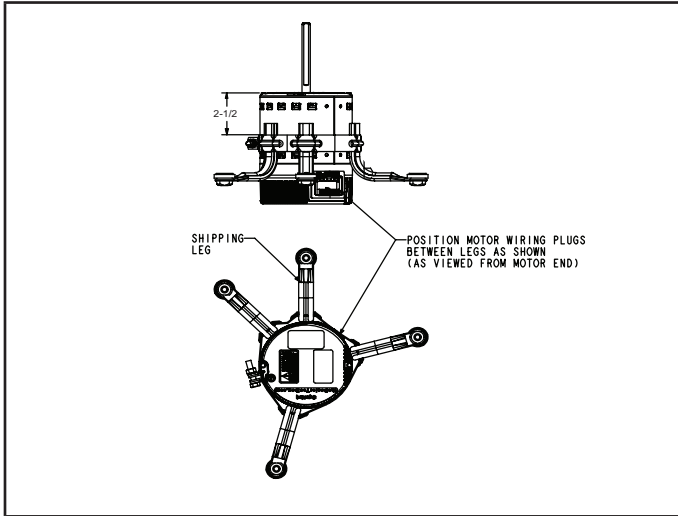

FIGURE 3
- 7 - Position belly band on to the replacement motor per the dimensions and instructions. See figure 3.